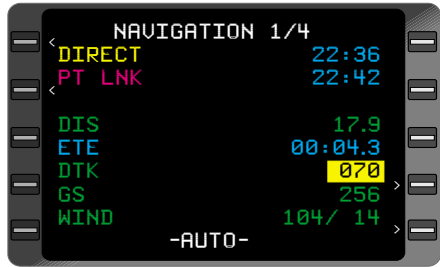

Figure 3-94
5. Desired Track (**DTK**) - INSERT. (Figure 3-94)